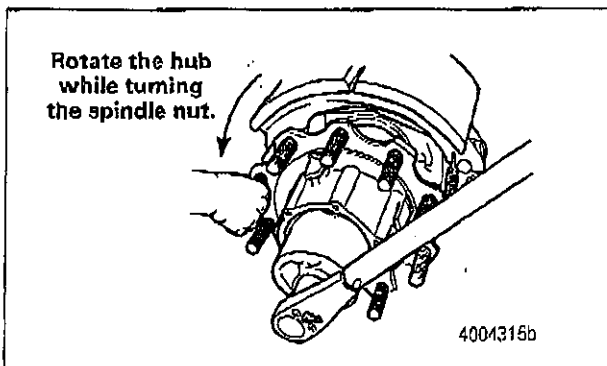

Figure 9
7. Tighten the spindle end nut to 810-850 lb-ft (1100-1150 N·m) while rotating the wheel and hub in a **COUNTERCLOCKWISE** direction. Do not back off the nut after tightening. Mark the nut location relative to the spindle. Figure 9. **ⓘ**